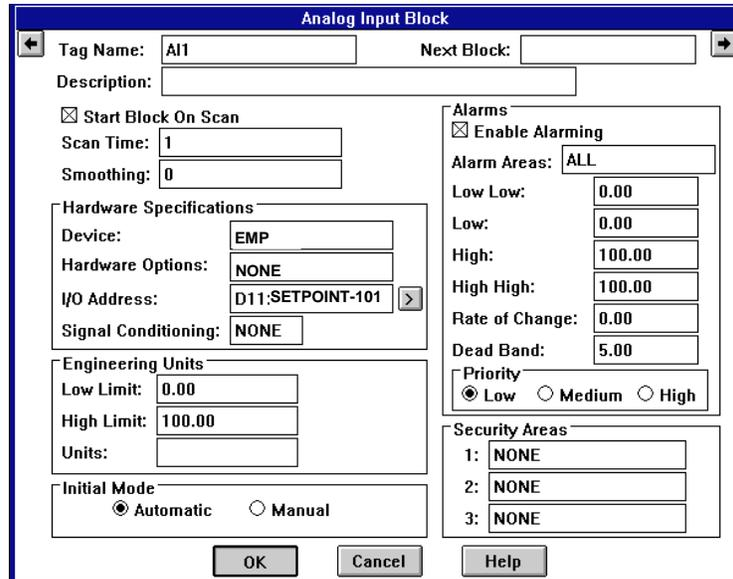

Figure 4-2 Analog Input Block Dialog Box
3. Select the Analog Input (AI) block, click on the OK button, and the Analog Input (AI) dialog box appears, as shown in Figure 4-2.